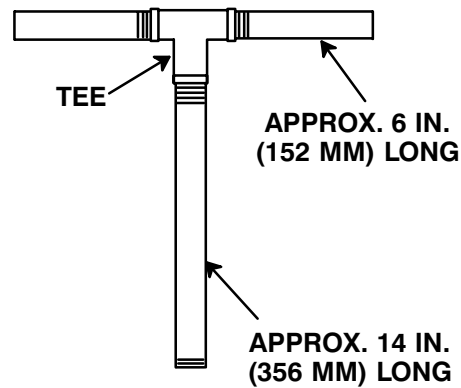

Figure 4. Rotating Assembly Tool
*ing 1/2-inch pipe (schedule 80 steel or malleable iron) and a standard tee (see Figure 4). All threads are 1/2-inch NPT. **Do not pre-assemble the tool.***